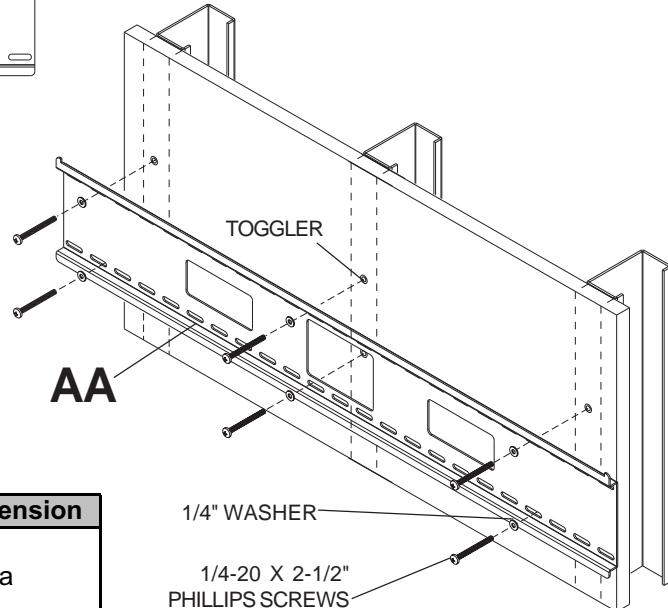

fig. 1.2
Loosely fasten mount assembly (AA) to wall using four 1/4-20 x 2-1/2" screws as shown in figure 1.2.